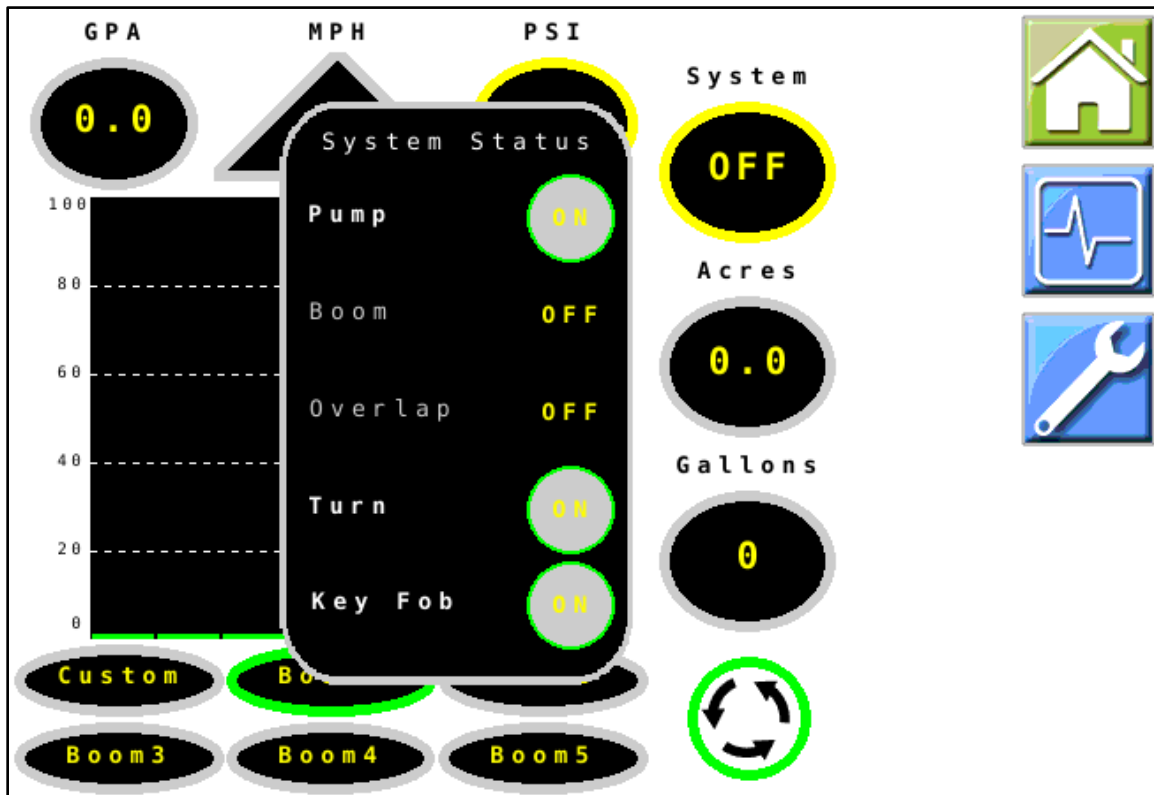

Figure 5 — Key Fob Verification
- Figure 5: Tap the **Home** icon  to return to the home screen. Select **System > Key Fob**.